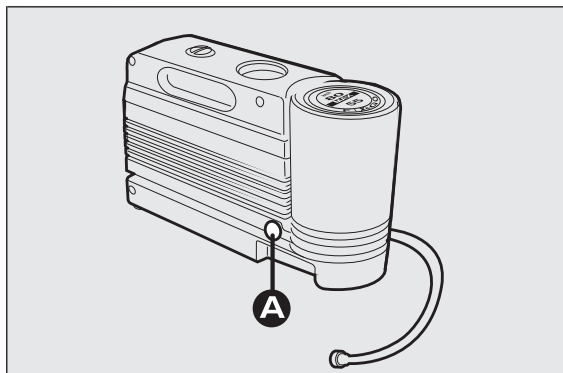

fig. 187
- ☐ press button A fig. 187 to release the part;